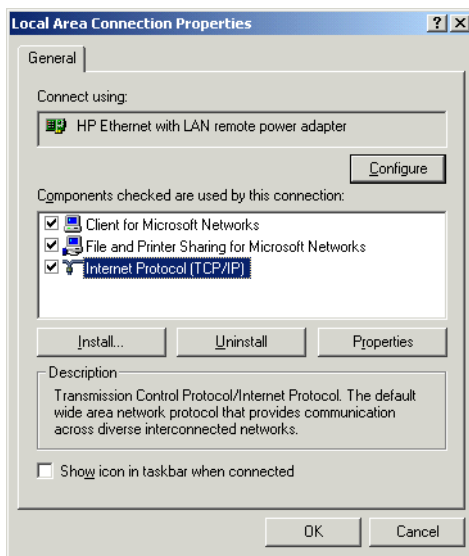

Figure 57 Local Area Connection Properties
- 2 In the '**Local Area Connection Properties**' dialog (see Figure 57) click the **Configuration** button to make sure the device is working properly.